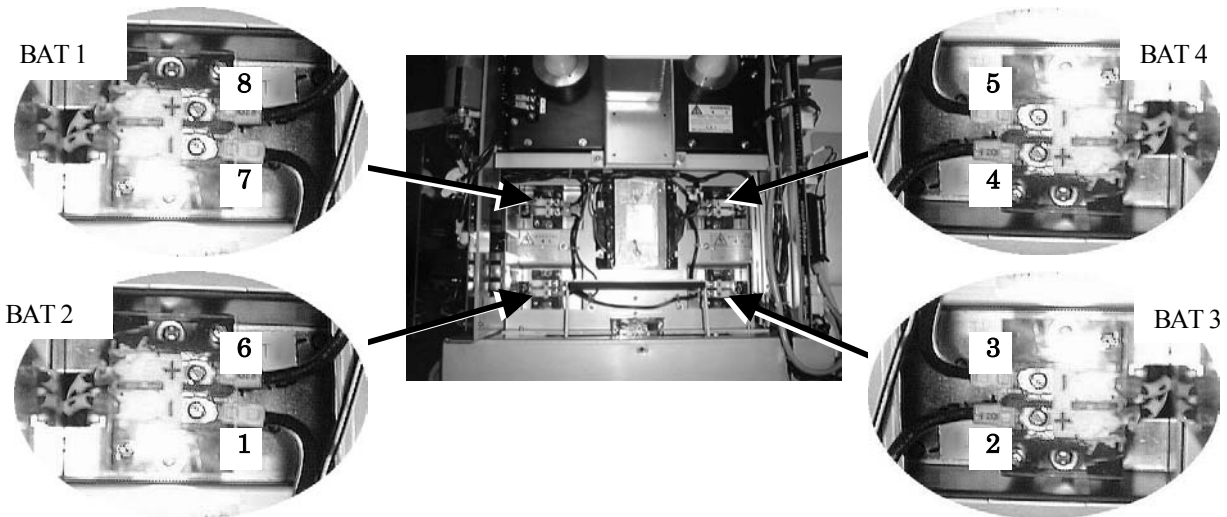

Fig. 6-15 Battery Wiring Disconnection Order
10. Take out the four battery ASSY (BAT1,BAT2,BAT3,BAT4) from the main unit, and open the cover by unscrewing the flat countersunk head screw shown in Fig. 6-15, and disconnect the wiring for the battery. Take out all the batteries.
14. Mount the battery ASSY to the original position. Pay attention to the battery numbers and positions. (Refer to Fig. 6-15.)
15. Connect the wires to the terminal block of battery ASSY in the reverse order of Fig.6-15. (from No.8 to No.1)
Be sure to connect them in order first from (+) terminal of BAT 1 (Refer to Fig. 6-15).